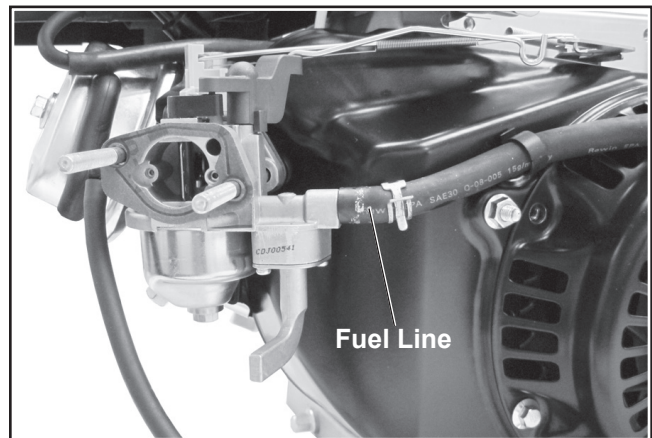

Figure 17. Remove Fuel Line from Carburetor.
4. Remove the fuel line from carburetor, and remove the tank from the bracket. See Figure 17.